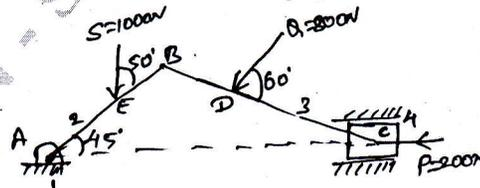

Fig.Q4
- 4 Determine various forces and  $T_2$  for the mechanism shown in Fig.Q4.